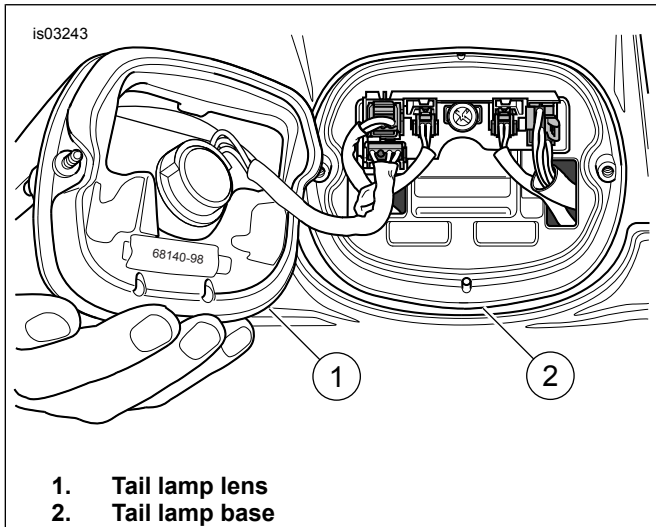

Figure 1. Remove Tail Lamp Lens
2. See Figure 1. Remove two screws and tail lamp lens (1) from base (2).